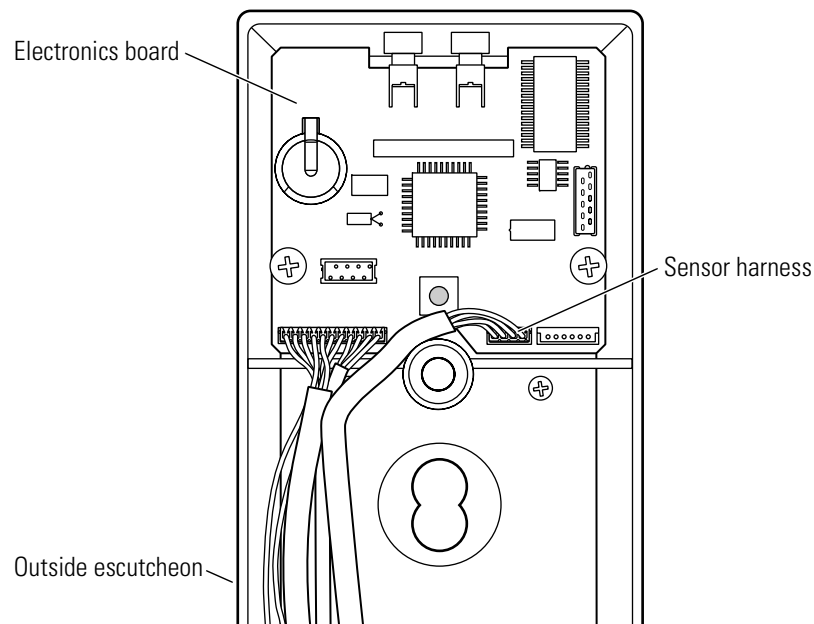

Figure 11.9 Connecting the sensor harness to the electronics board
2. If the lock has a sensor harness, remove it. See Figure 11.9. For complete instructions, see page 9-6.